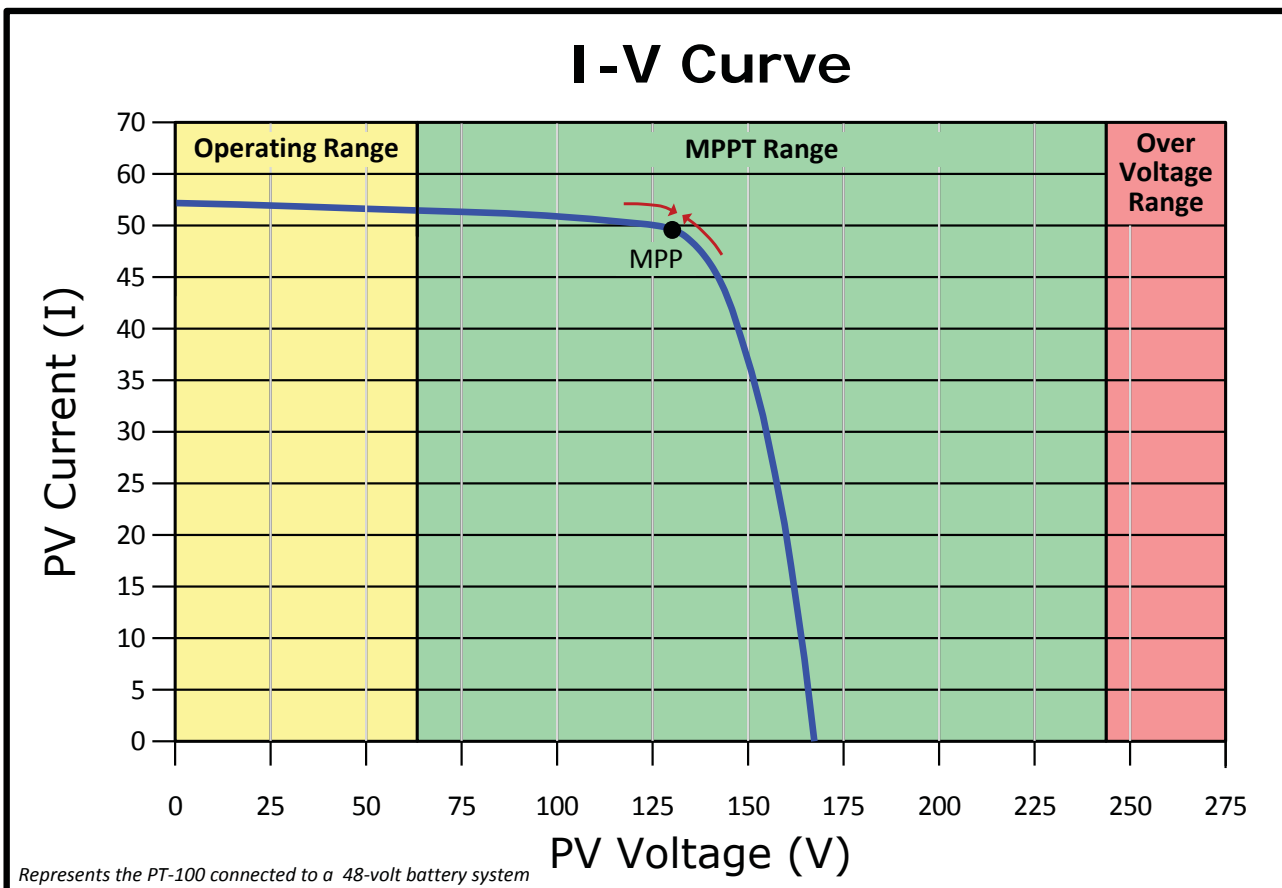

Figure 4-8, I-V Curve
The purpose of MPPT is find the point of the PV array’s operating curve (shown in Figure 4-8) where the current (I) and voltage (V) are optimized at the same time—referred to as the Maximum Power Point (MPP). The MMPT algorithm in the PT-100 is designed to sample the output of the PV array and adjust the load it presents to the PV array until the voltage and current approaches the MPP. The sampling is continuous in case the PV maximum output power changes because of environmental conditions, such as panel shading, cloud cover, and panel temperature.